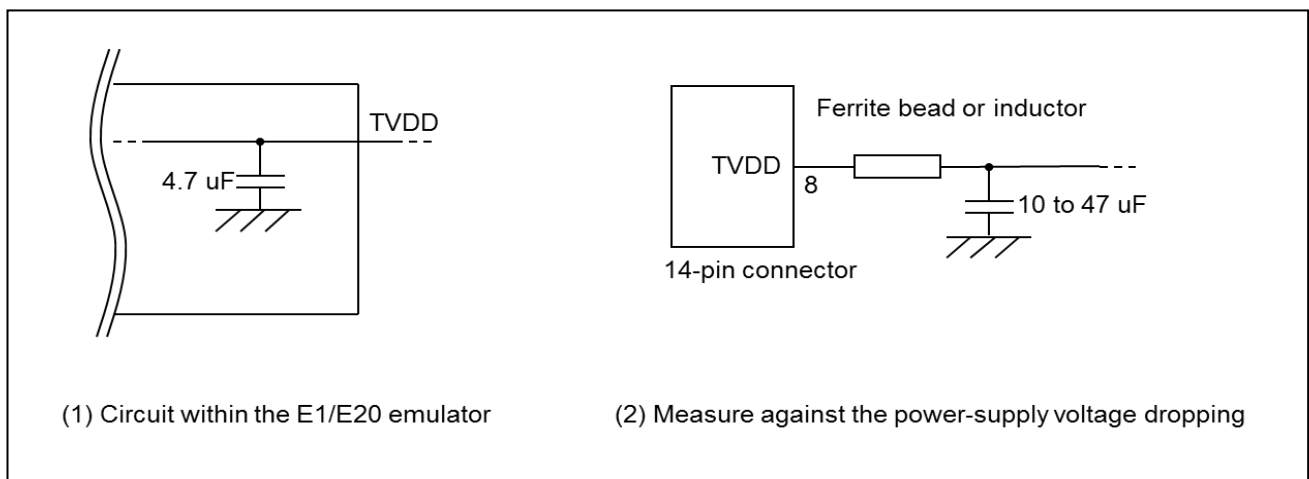

Figure 2-10 Circuit Configuration for Hot Plug-in
Pin 8 of the E1 emulator is connected to a 4.7- $\mu$ F capacitor as shown in (1) in Figure 2-10, so hot plug-in connection of the emulator may lead to a momentary drop in the power-supply voltage on the user system. This might cause the MCU to be reset.
As shown in (2) in Figure 2-10, this effect can be reduced by placing a ferrite bead (or inductor) and relatively large capacitor with low equivalent series resistance near the TVDD line of the connector for connection of the emulator. Note that this measure will not completely eliminate the voltage drop. Note that hot plug-in connection is only for use during debugging, and a separately sold hot plug-in adapter is necessary to use this function otherwise.